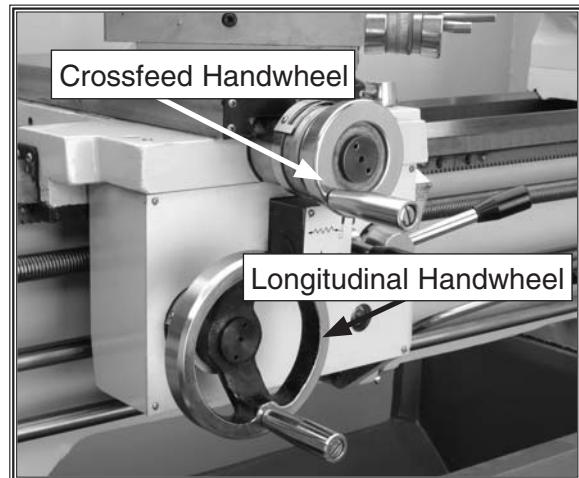

Figure 14. Longitudinal and crossfeed handle locations.
1. Using the screwdriver, attach the handles (Figure 14) to the threaded hole in the handwheels.